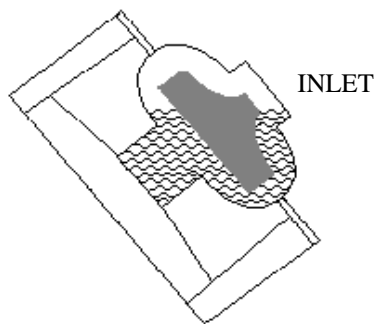

FIGURE 4: BEST ORIENTATION
3. Cut out the required section of the radiator hose. Connect the pump inlet and outlet to the appropriate hoses ensuring that the pump is oriented in the BEST CORRECT ORIENTATION as shown in Fig 4, page 7 "BLEEDING THE EWP®" during bleeding. Ensure hose clamps are tight.